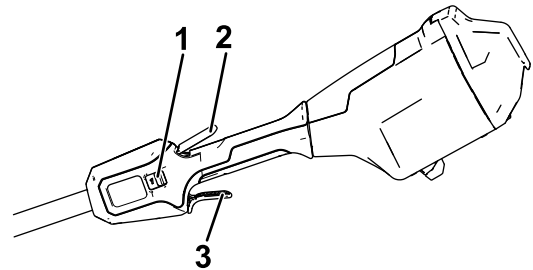

Figure 12
6. To start the machine, squeeze the lockout trigger, then squeeze the run trigger (Figure 12).